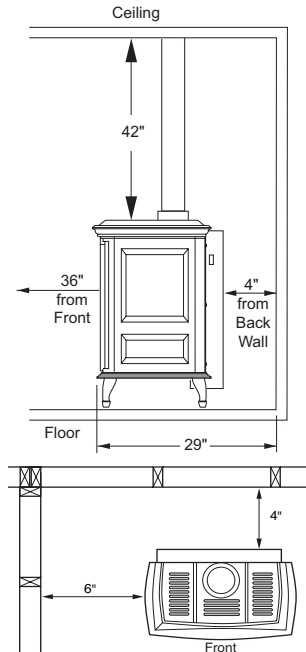

Figure 3 - Clearances for Standard Installation
- Proper clearances must be maintained. See Figures 3 and 4, pages 5 and 6.